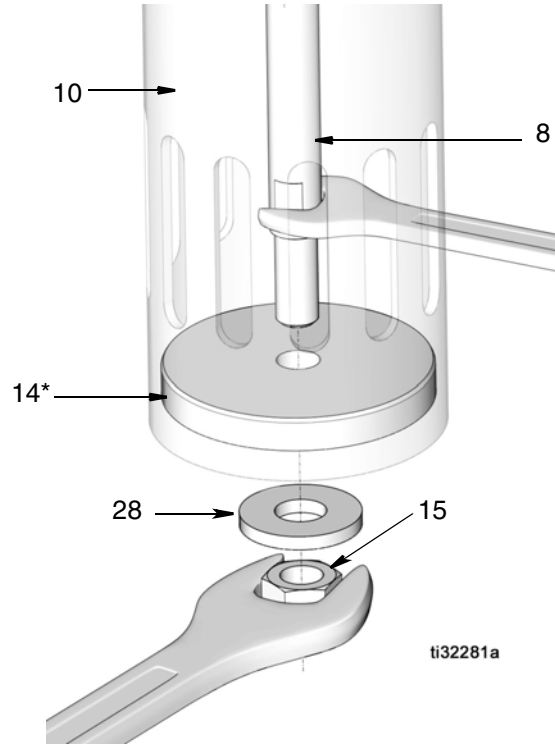

FIG. 3
4. Clamp the air motor base (21) in a vise horizontally by closing the vise jaws on the flange.
5. Insert a wrench through a slot in the foot valve (10) and secure it around the flats of the piston shovel rod (8). While holding the piston shovel rod securely in place, use a second wrench to loosen and remove jam nut (15). Remove washer (28), and priming plate (14) from shovel rod (FIG. 3).